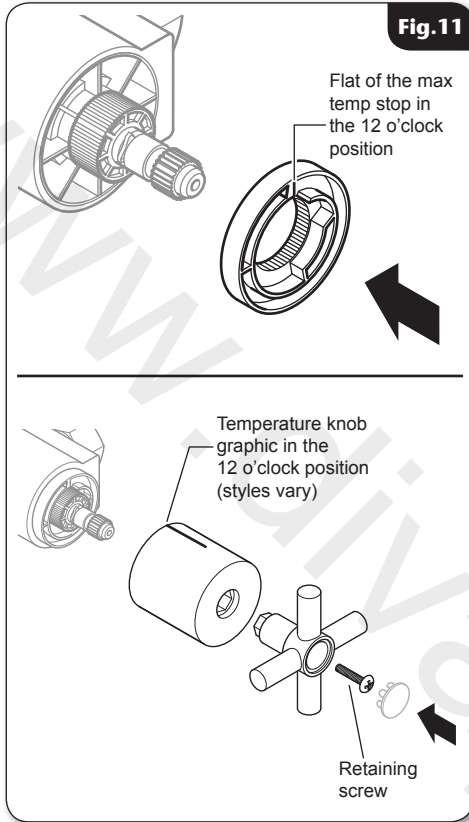

Fig.11
- Fit the mixer controls (**fig.11 & 12**) and carry out the commissioning procedure.
### Temperature control - (fig.11)
- Fit the maximum temperature stop. The orientation is shown in (**fig.11**).